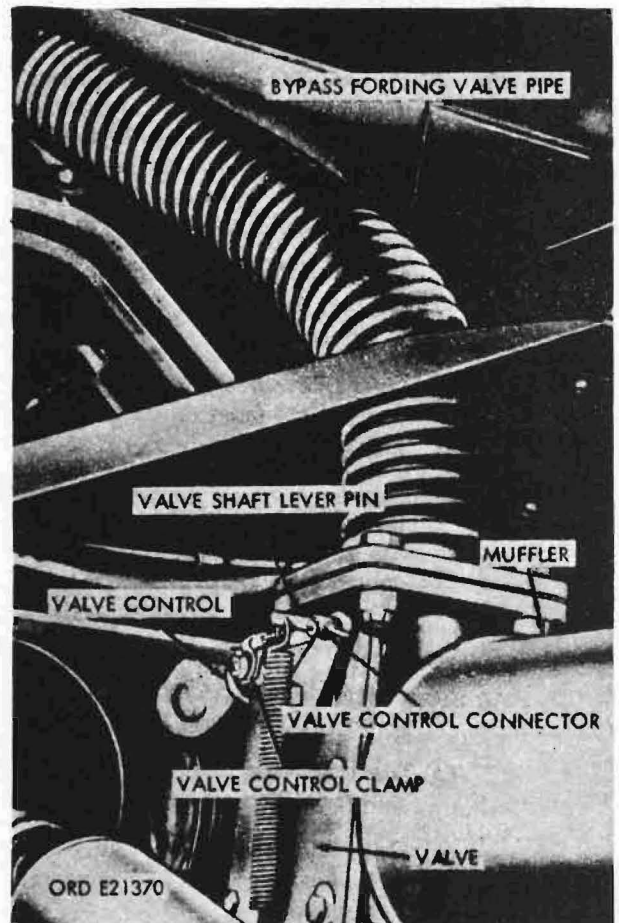

Figure 122. Exhaust bypass valve
d. Exhaust Bypass Valve Control. Exhaust bypass valve control (fig. 69), located in the cab on a bracket below the left side of the instrument cluster, operates the exhaust bypass valve (fig. 122). The exhaust bypass valve is located beneath the vehicle at the front end of the tank. The valve control pulls out to bypass exhaust gases to the heating chamber beneath the tank. Pushing in on the control shuts off the valve, preventing exhaust from entering the chamber. The control locks in or out by turning the control knob to the vertical position. The exhaust bypass valve control is used only during freezing or near freezing temperatures, and only when there is at least 10 inches of water in the sections.